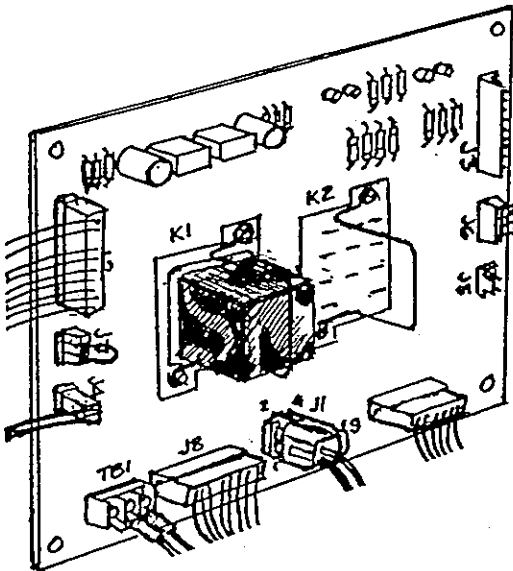

Figure 10.1.1a
STEP 10.1.1: Re-install each component one at a time. First dress the left side of the circuit board, activate left move switch. See Figure 10.1.1a. If this works without the circuit breaker tripping, then dress the right side of the circuit board. If any component trips the circuit breaker, replace it or repair it. See Figure 10.1.1b.